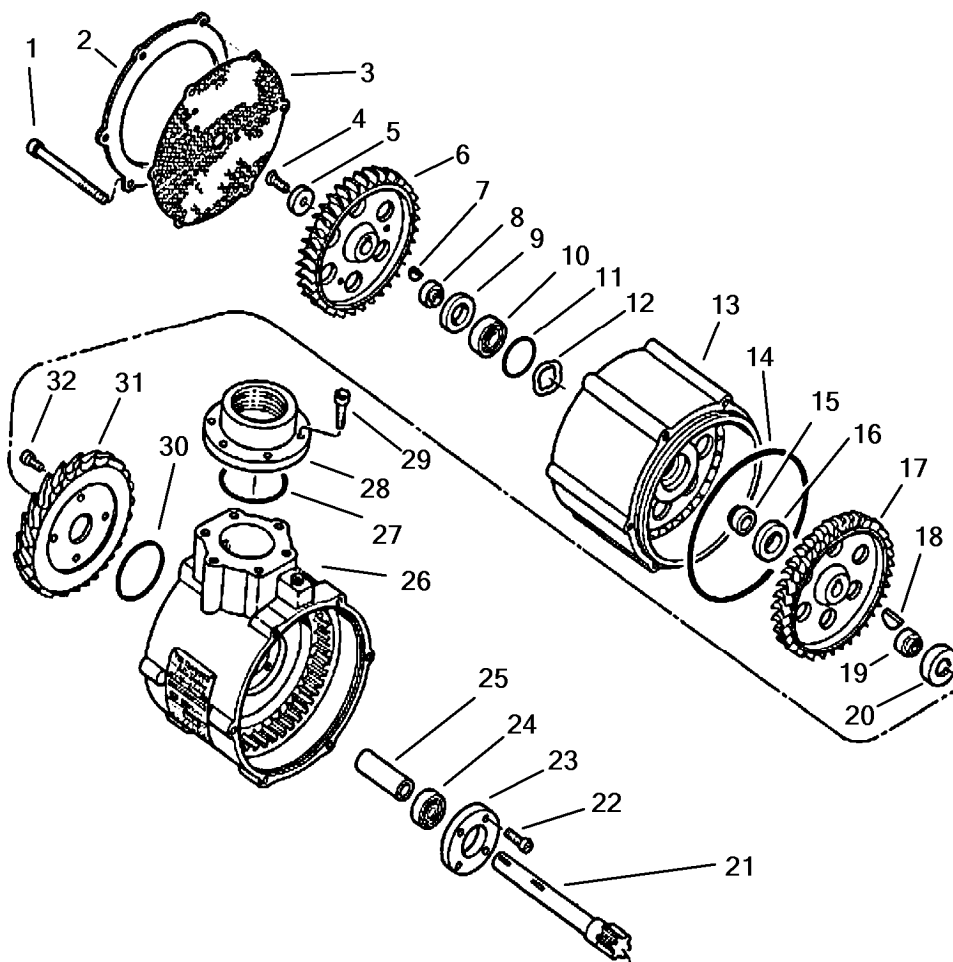
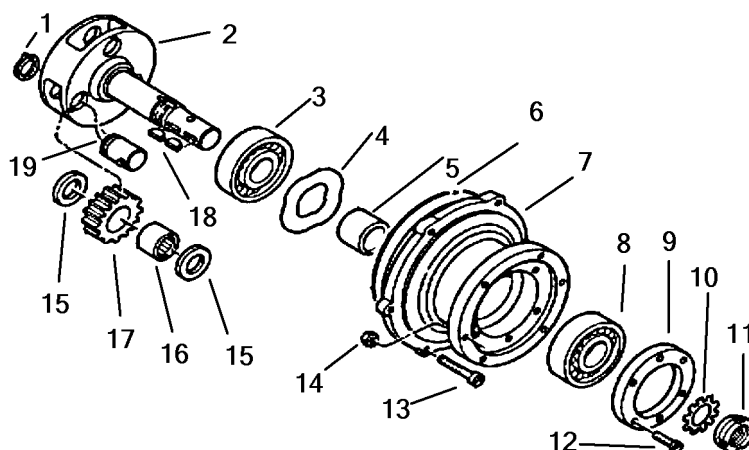
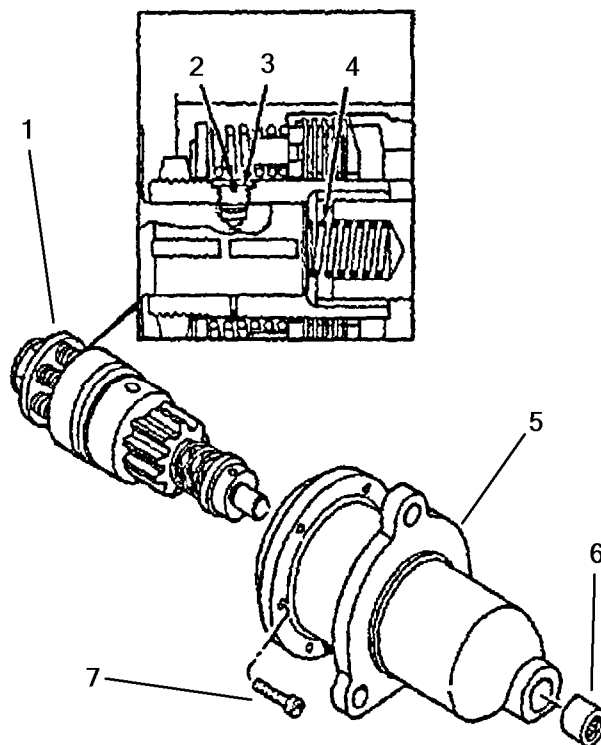
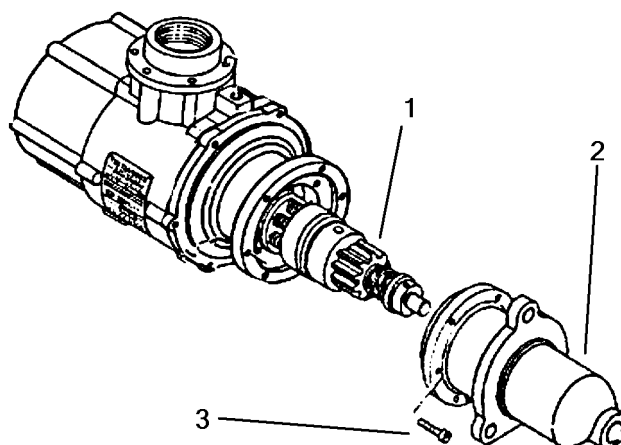

FIGURE 3-35C. Assembly of Turbine Housing Assembly.
FIGURE 3-35D. Assembly of Gear Box Housing Assembly.
FIGURE 3-35F. Assembly of Bendix Drive Assembly.
FIGURE 3-35G. Assembly of Air Starter.
- a. Press bearing (24, FIGURE 3-35C) onto shaft (21) until seated and slide spacer (25) onto shaft.
- b. Install O-ring (30) into the face of the turbine housing (26).
- c. Press seal (20) into nozzle (31) and install nozzle with the scribe mark facing outward into turbine housing (26).
The screws (32, FIGURE 3-35C) that secure the nozzle (31) must have Loctite 290 applied to the threads before installation. Failure to do so may cause damage to the equipment.
- d. Apply Loctite 290 to screws (32, FIGURE 3-35C) and hand-tighten into nozzle (31).
- e. Install spacer (19, FIGURE 3-35C) and key (18) into shaft (21) and slide shaft into turbine housing (26).
Ensure the key (18, FIGURE 3-35C) does not get pushed out during assembly.
- f. With the scribe mark facing outward, install rotor (17, FIGURE 3-35C) onto shaft (21) until firmly seated.
- g. Temporarily install nozzle/liner (13) to turbine housing (26) and torque screws (32) to 30 in-lb. Remove nozzle/liner (13).
- h. Press lip seal (16) into nozzle/liner (13) and install O-ring (14).
- i. Install O-ring (11) into the nozzle/liner bearing bore.
- j. Align scribe marks and position nozzle/liner (13) into turbine housing (26).
- k. With the small end of the spacer (15) facing outward install the spacer and wavy washer (12) onto shaft (21).
- l. Press bearing (10, FIGURE 3-35C) onto shaft (21) until firmly seated.
- m. With the small end of the spacer (8) facing inward install spacer onto shaft (21) and press lip seal (9) onto shaft and into nozzle/liner (13) until firmly seated.
Ensure the key (7, FIGURE 3-35C) does not get pushed out during assembly.
- n. Install key (7, FIGURE 3-35C) into shaft (21) and with the scribe mark facing outward, press rotor (6) onto shaft (21).
- o. Install screws (4) and washers (5) and torque to 100 in-lb.
- p. Install O-ring (27) into groove on air inlet (28) and secure with screws (29); torque to 170 in-lb.
- q. Press needle bearing (16, FIGURE 3-35D) into planetary gear (17) and place thrust washers (15) on each side of gear and slide gear into slot of carrier shaft (2).
- r. Align holes and slide planetary gear shaft (19) into carrier shaft (2) ensuring that the snap ring grooved end goes in first. Install snap ring (1).
- s. Press bearing (8) into gearbox housing (7) and install retainer plate (9) with screws (12).
- t. Press bearing (3) onto shaft (2).
- u. Install wavy washer (4) and bearing spacer (5) onto shaft (2).
- v. Position shaft (2) into bearing bore of gearbox housing (7) and press gearbox onto shaft.
- w. Install washer (10) and retaining nut (11); torque to 55-65 ft-lb. Align and bend locking tab on washer.
- x. Thoroughly grease planetary gear (17) and the ring gear of the turbine housing (26, FIGURE 3-35C). Pack the center of the carrier shaft (2, FIGURE 3-35D) with grease.
- y. Place O-ring (6, FIGURE 3-35D) onto outer diameter of gearbox housing (7).
- aa. Install screws (4) and nuts (5) and torque 90-120 in-lb. Rotate starter, checking for free movement.
- bb. Press needle bearing (6, FIGURE 3-35F) into drive housing (5).